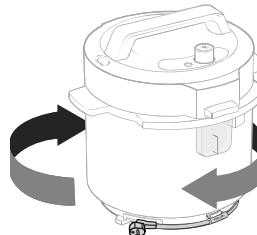

Figure 10.10
3. Wrap the power cord clockwise around the base of the pressure cooker and hang the power cord clip onto the cord hook. [Figure 10.10]